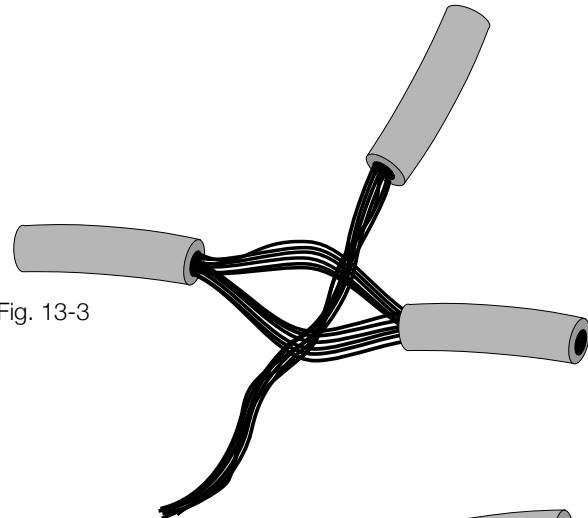

Fig. 13-3
- 2) Strip 1" to 1 1/2" of insulation from the wire in the fused link to be installed. See Fig. 13-3